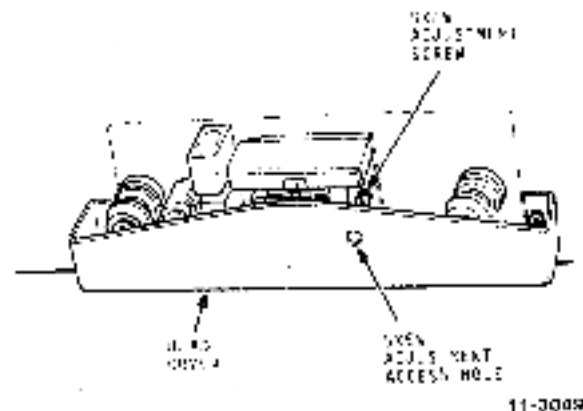

Figure 5-10 Head Skew Adjustment
- d. Observe the SKEW indicator and adjust the skew-adjustment screw on the head mounting plate (Figure 5-10) until the indicator does not come on.